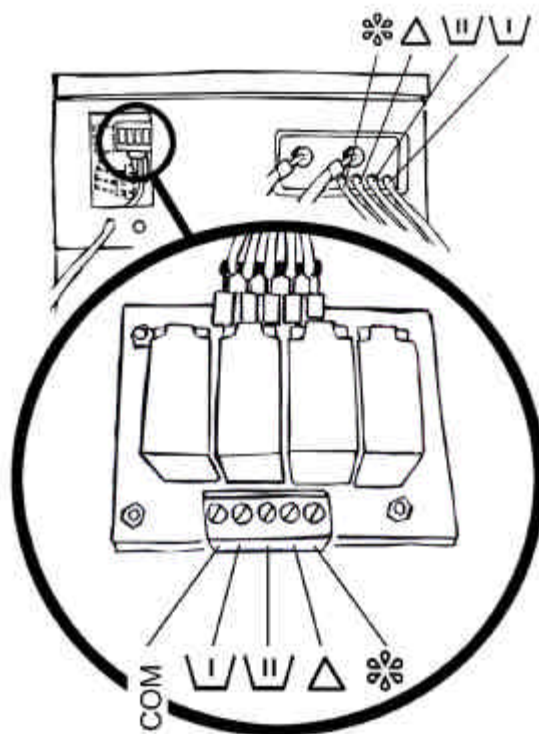

fig. 8
5. Associate each one of the four external dosing electrical signals supplied by the machine to a different product entry. To associate correctly each product with its function, observe the icons in **fig. 8**.